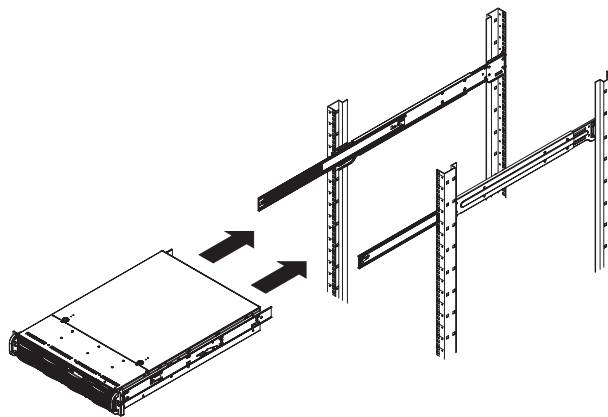

Figure 3-3 Installing the Server in a Rack
You should now have rails attached to both the server chassis and the rack unit. The next step is to install the server into the rack (refer to Figure 3-3).
1. Extend the outer rails as shown in Figure 3-3.